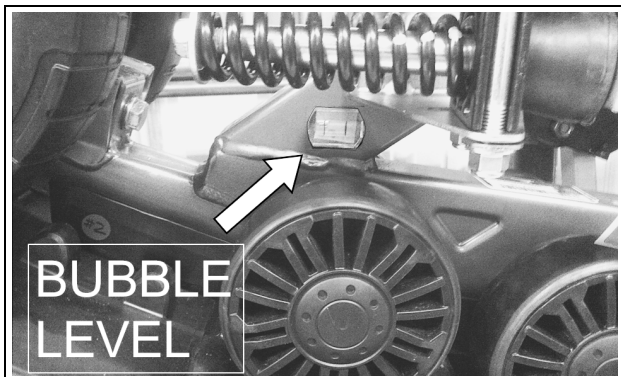

Figure 4
- A Bubble Level is attached to the inside of the front frames. A perfectly centered bubble is needed to adjust the angle of attack correctly. See Figure 4.